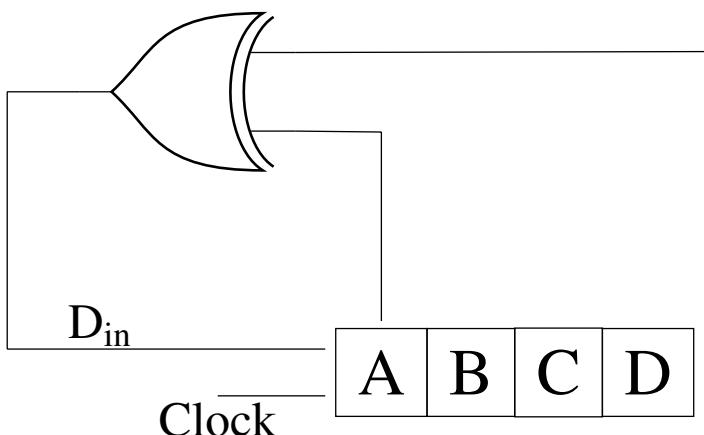

Fig. 5.17
17. A 4-bit shift register circuit configured for right-shift operation, i.e.  $D_m \rightarrow A, A \rightarrow B, B \rightarrow C, C \rightarrow D$ , is shown in Fig. 5.17. If the present state of the shift register is  $ABCD = 1101$ , the number of clock cycles required to reach the state  $ABCD = 1111$  is